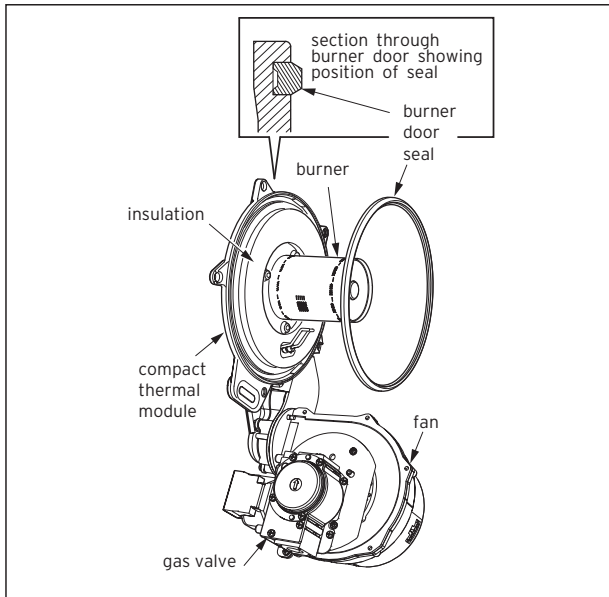

Fig. 8.7 Compact thermal module
- Remove and discard the burner door seal and replace with new, see fig 8.7.